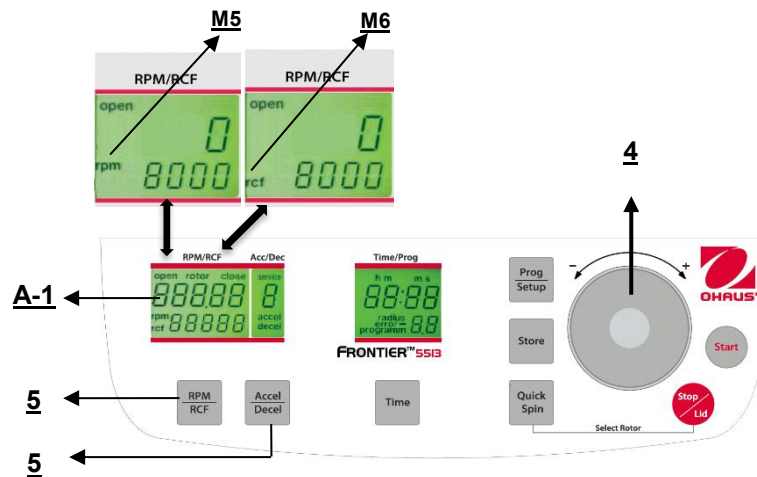

Figure. 16
This pre-selection is activated through the key **"RPM/RCF"** (5) (refer to figure 16 below). By pressing the key once the word **"rpm"** (M5) flashes. By pressing the key twice the pre-selection of the centrifugal forces can be selected. Then the flashing word **"rcf"** (M6) appears. You can set the desired values with the adjusting dial (1). In the display (A-1) the regulated value is shown permanently, before, during and after the run.